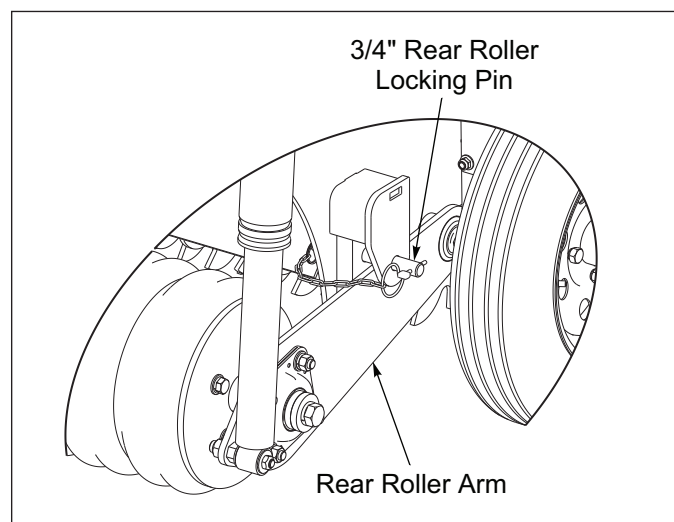

Figure 2-7: Rear Roller Locking Pin Engaged
4. Slowly raise the machine until both Lift Cylinders are fully extended. Remove the Rear Roller Lock Pins from the ends of the Seeder that locks the Rear Roller Arms down and place them in the Toolbox. **See Figure 2-7.**